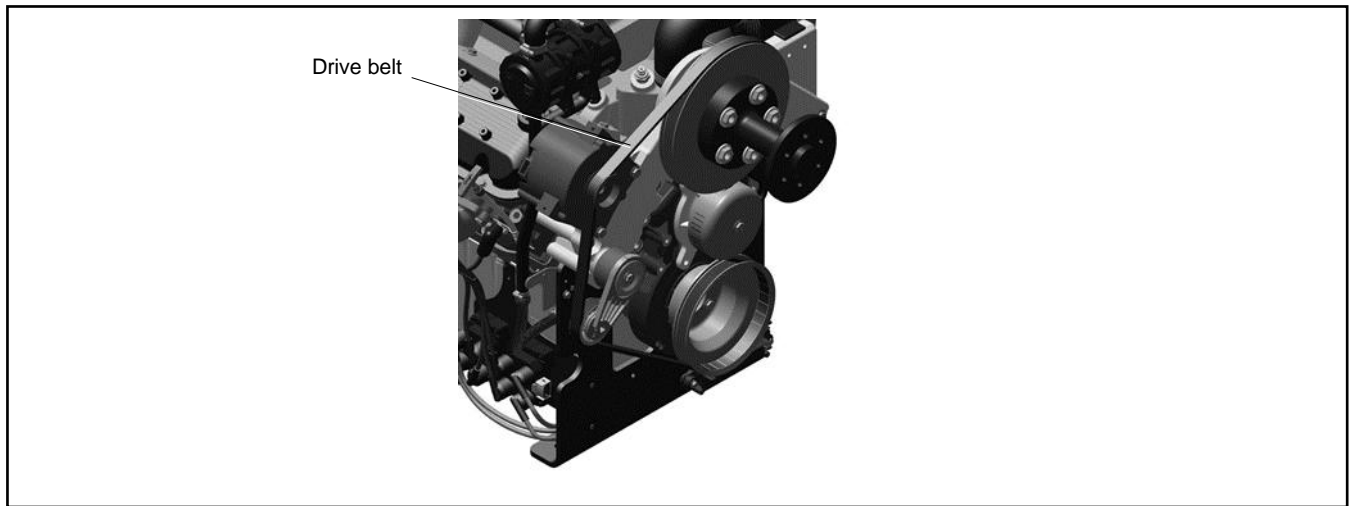

Figure 25 Drive Belt Location
2. Locate the drive belt. See Figure 25.